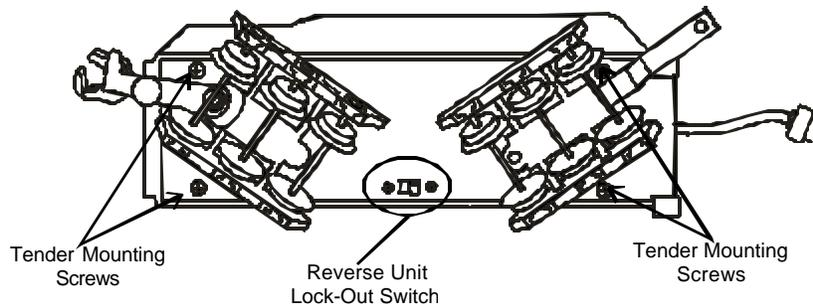
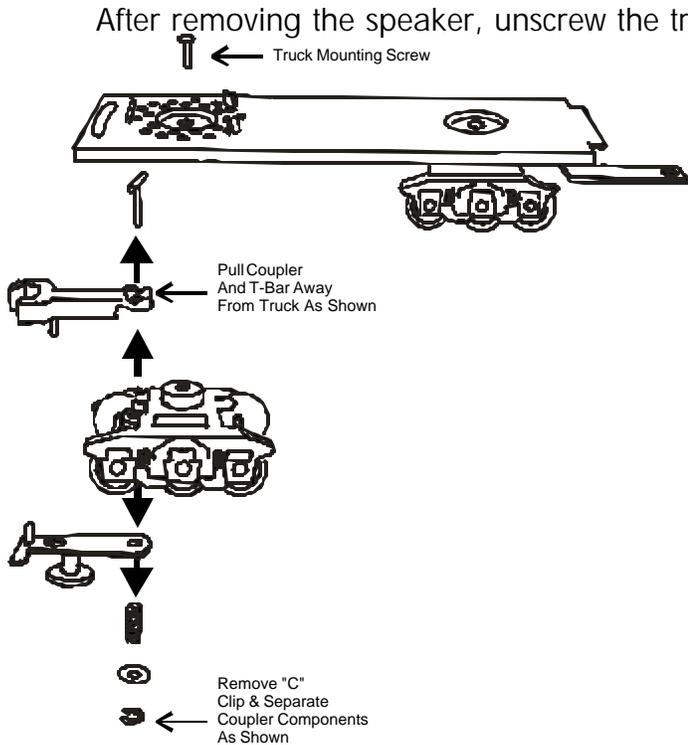

Figure 4: Reverse Unit Lockout Switch Location
Figure 10: Removing The O Gauge Coupler
The reverse units can be locked into any of the three phases by entering the desired phase using the transformer throttle or directional button and then switching the ON/OFF switch located under the tender chassis (see Fig. 4) to the OFF position. To enter the normal phase again, simply turn the switch to the ON position. After an hour or more of non-use, the reverse unit will cycle into any of the three positions and the ON/OFF switch must be set to ON in order for the engine to operate correctly.
It is possible to replace the standard O Gauge operating die-cast coupler with a tinsplate style Box Coupler by following the simple instructions below as seen in Figures 10 and 11. You will need to remove the tender body from the tender chassis before removing the trucks. The tender body is held in place by four Phillips screws. The screws are located in each corner of the chassis as seen in Fig. 4 on page 3.
Once the body mounting screws are removed, the chassis can be pulled away from the tender shell. The electronic whistle speaker must be removed to reveal the truck mounting screw as indicated in Figure 10 and 11.
- 1) Remove the steam engine tender body from its chassis by removing the four mounting screws located in each corner of the chassis as seen in Figure 4 on page 3.